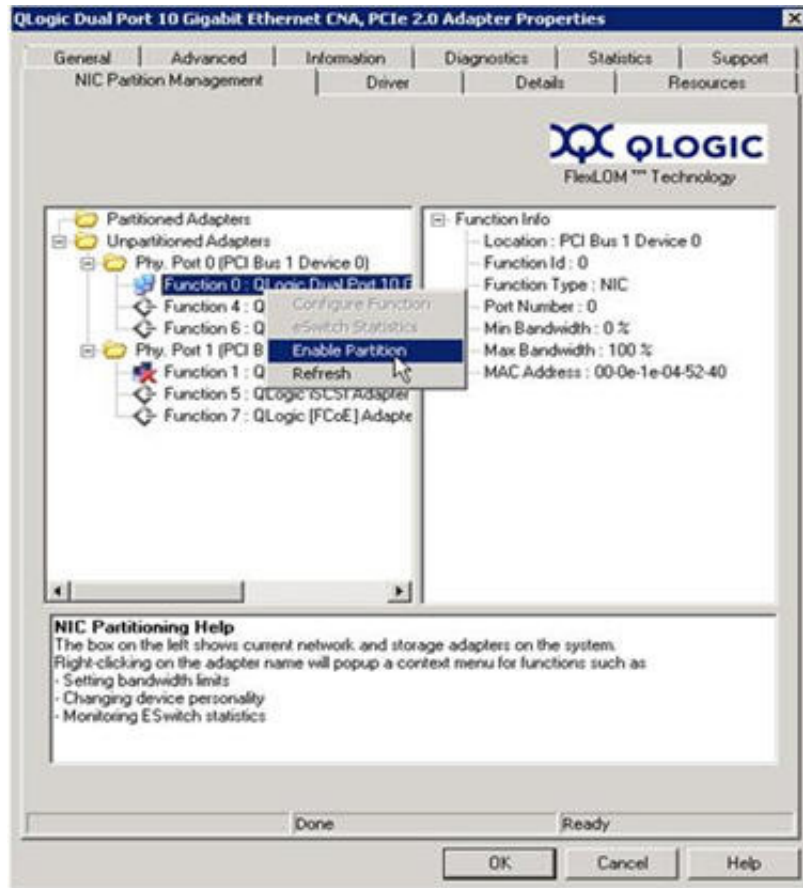

Figure 2-40. Enabling Partition
- c. Select **Enable Partition** (Figure 2-40).